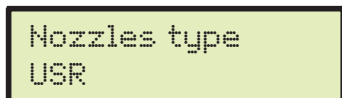

Fig. 59
- First select Nozzles type (ISO or USR, Fig. 59).